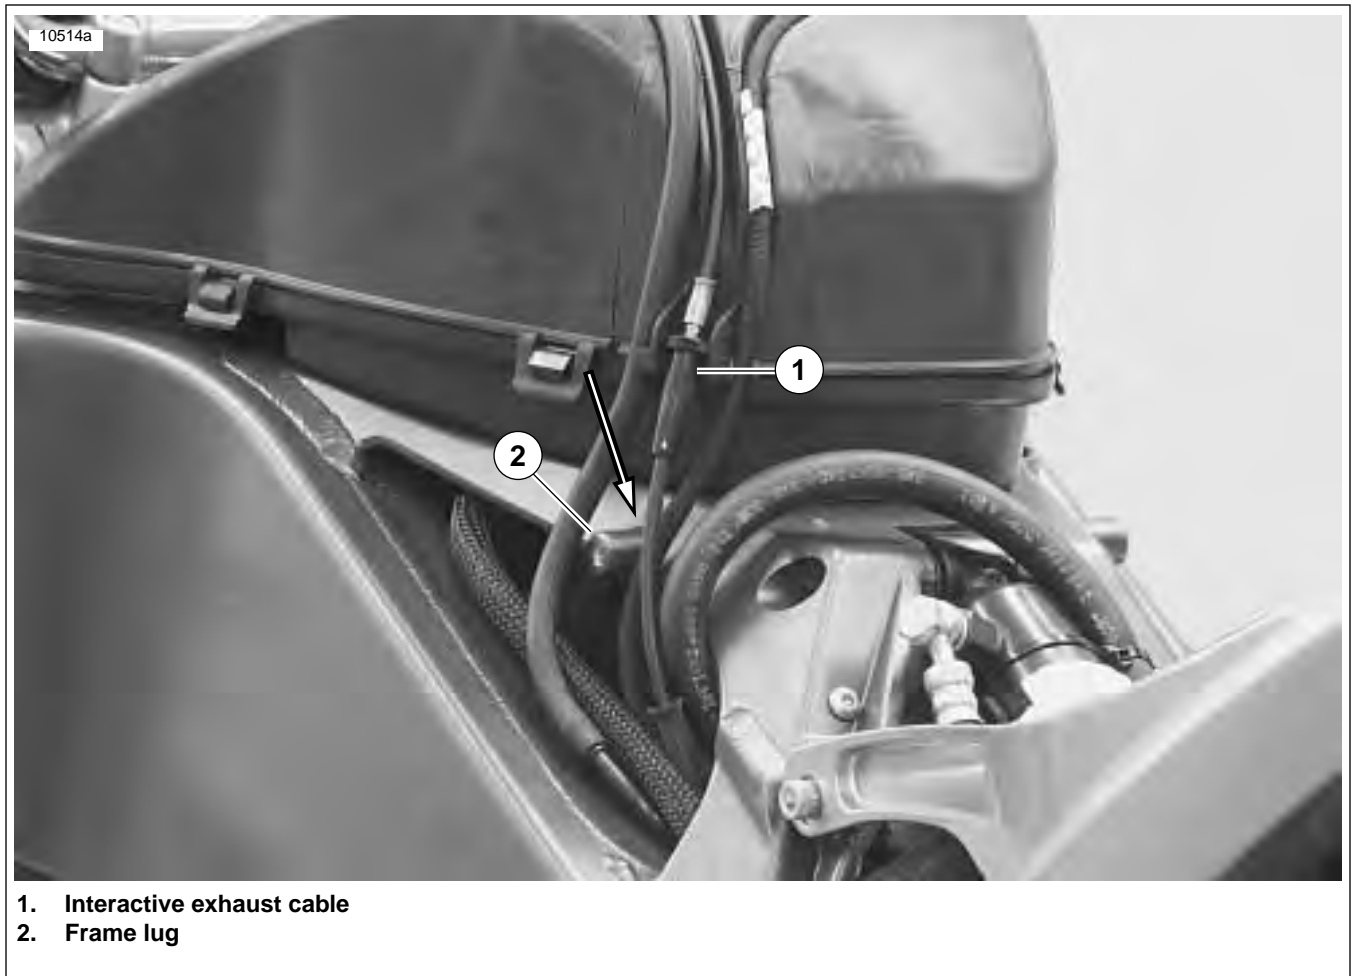

Figure 1-48. Correct Cable Routing Behind Frame Lug
11. See Figure 1-48. Verify that the interactive exhaust cable (1) is routed behind the frame lug (2) before installing air intake cover.